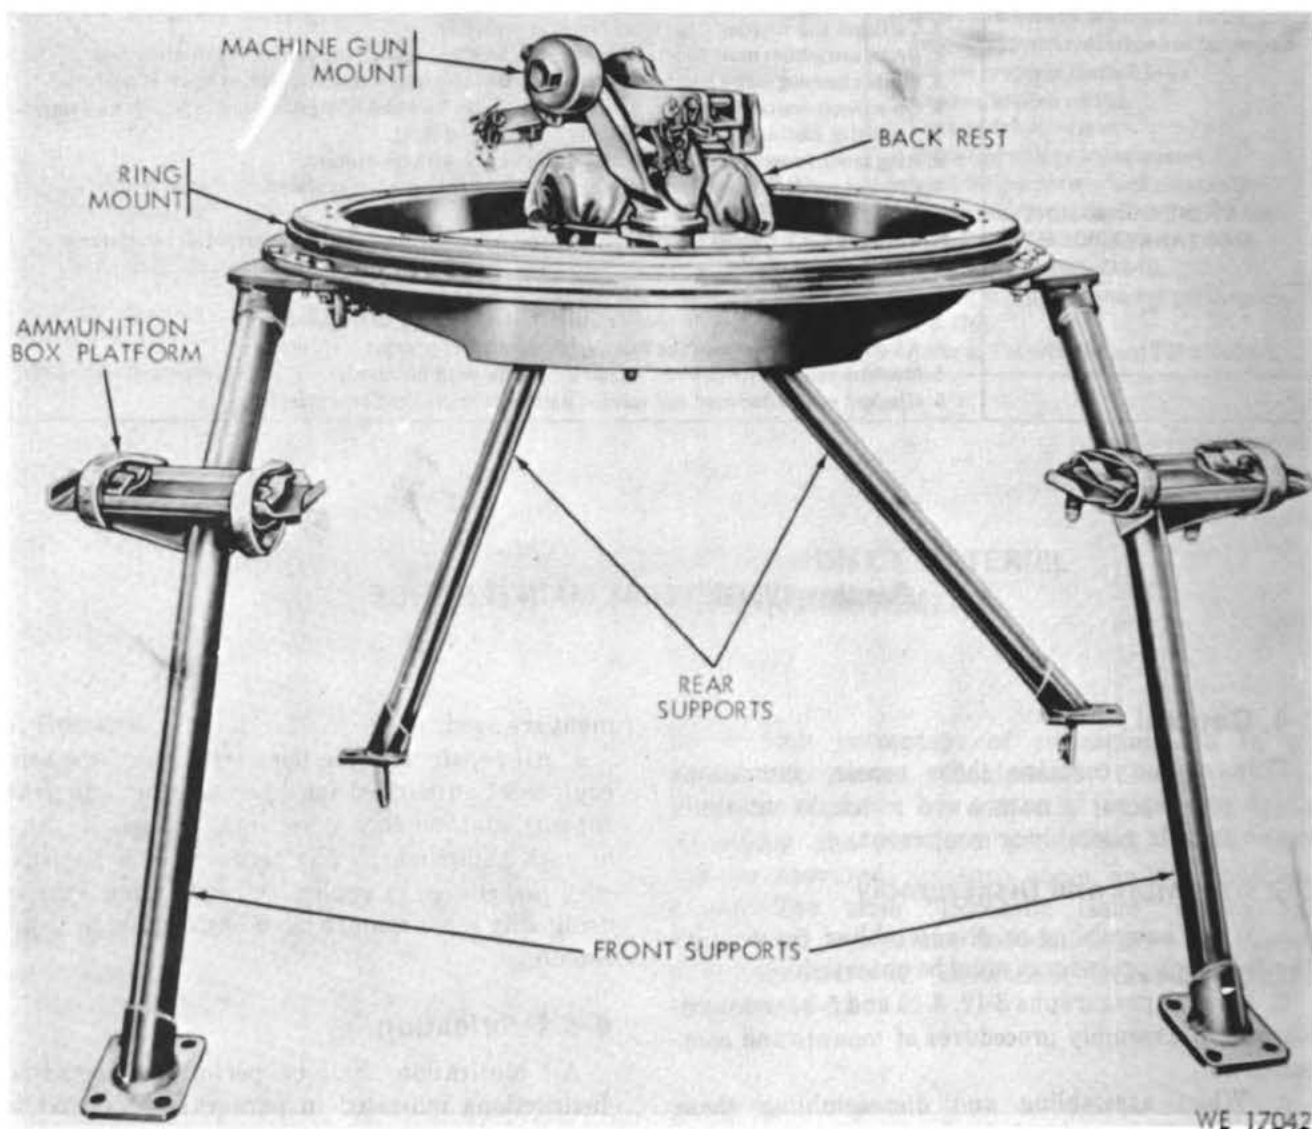

Figure 4-1. Mount gun ring for carrier M548.
e. Mount gun rungs for Carrier M548 are assembled to the vehicle by the supports, generally in the same manner. See figure 4-1 and TM 9-2350-247-10 for details on installation to the vehicle.